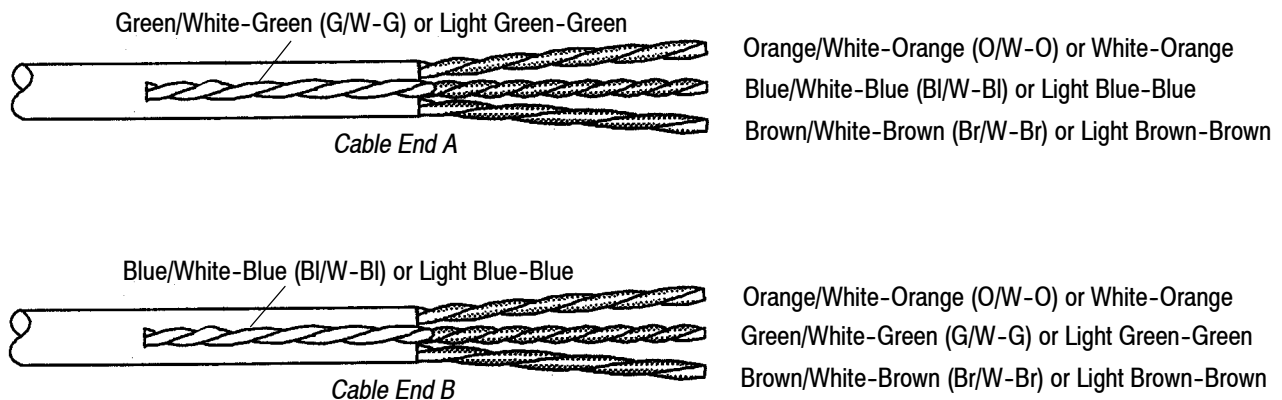

Figure 4
1. While firmly holding the cable jacket next to the stripped end, position the pairs as shown in Figure 4, folding the indicated pair back over the jacket.